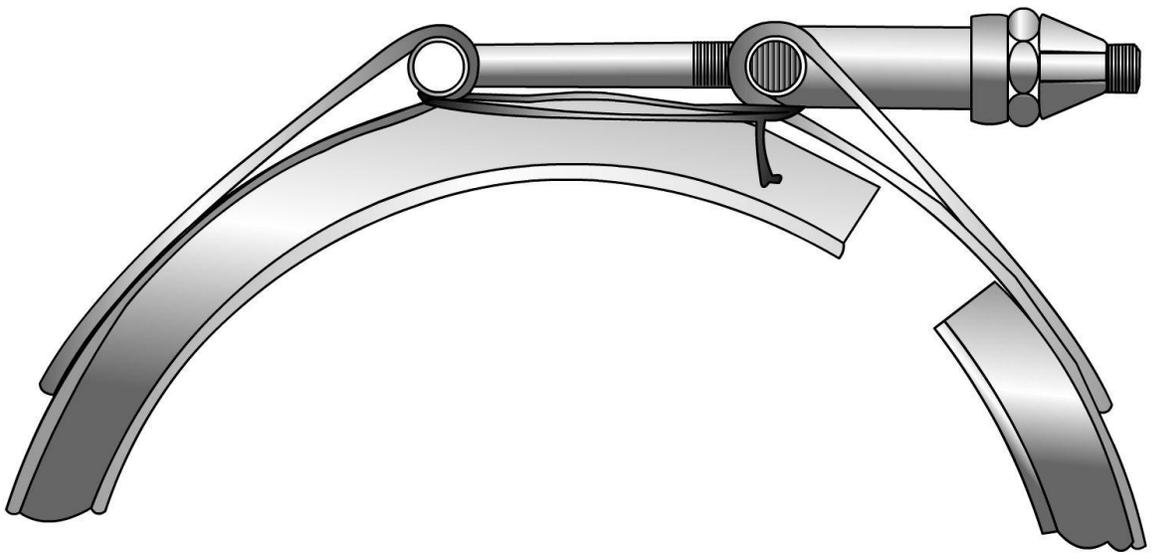

Figure 6-29 — Safely securing a V-band coupling.
8. Safety wire the V-band coupling, as shown in *Figure 6-29*, as an extra measure of security in the event of T-bolt failure. The safety wire will be installed through the band loops that retain the T-bolt and the trunnion or quick coupler. A minimum of two turns of the wire is required. Most V-band connectors will use a T-bolt with some type of self-locking nut.